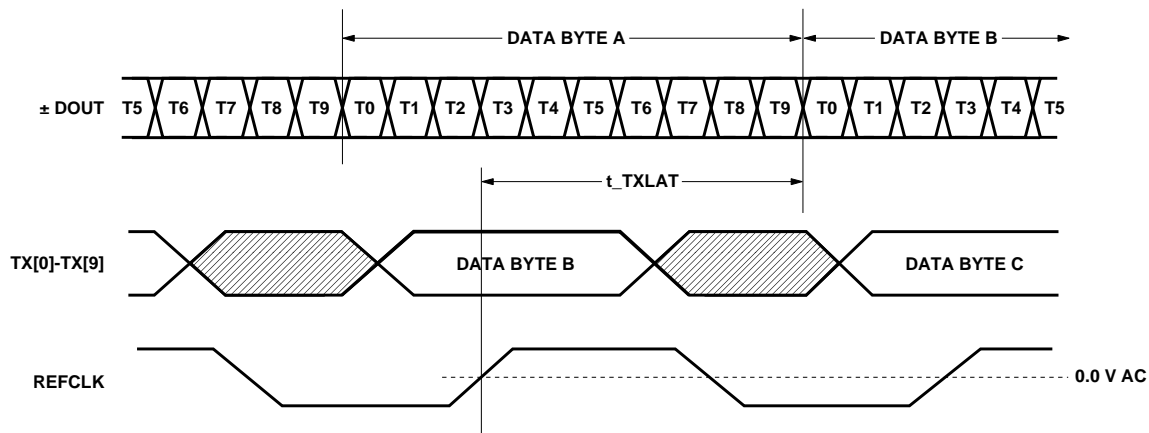

Figure 4. Transmitter Latency.
1. The transmitter latency, as shown in Figure 4, is defined as the time between the latching in of the parallel data word (as triggered by the rising edge of the transmit byte clock, REFCLK) and the transmission of the first serial bit of that parallel word (defined by the rising edge of the first bit transmitted).